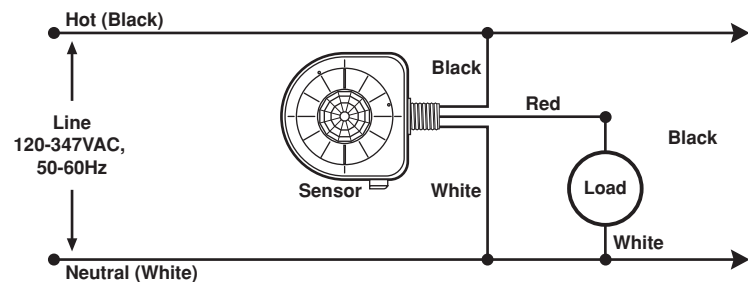
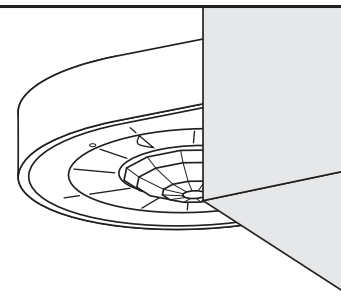

Figure 1A
Figure 1B
NOTE: The OSFHU-xTW is supplied with three lens trim rings. The 360 degree High Bay lens (white color trim ring) is installed at the factory with the aisle lens (black color trim ring) and the 360 degree Low Bay lens (blue color trim ring) in the carton. Change the lens for use in aisle or Low Bay applications. See below for changing lens trim ring. The OSFHU-xTW Sensor mounts in a 1/2" knock out hole on the end of a luminaire or an electrical box. The Sensor's field-of-view may be partially obstructed by the luminaire housing (**refer to Figure 1A**). At higher mounting heights, the outer beams are not used. As long as the bottom of the sensor is mounted within 1" from the bottom of the luminaire, the field-of-view will not be affected (**refer to Figure 1B**).
2. Punch out the keyed hole of the Adapter half body to be mounted on the luminaire or electrical box (**refer to Figure 1B**).